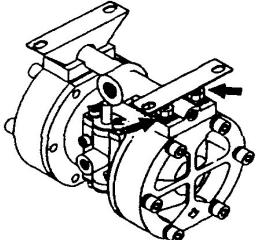

Fig. 4.7
- Turn over the main body assembly. [Fig. 4.7]
- Remove the 4 retainer nuts from the “in” manifold, and remove the “in” manifold. [Fig. 4.7]